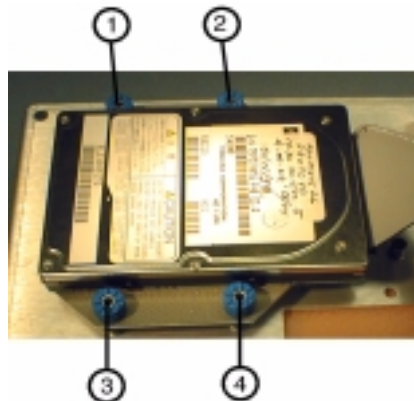

Figure 3-38. Removing the hard drive and mounting bracket from the rear panel
- 4 Use the T-10 TORX driver to remove the four screws, grommets, and washers fastening the hard drive to the rear panel assembly. See ① through ④ in Figure 3-38 below.